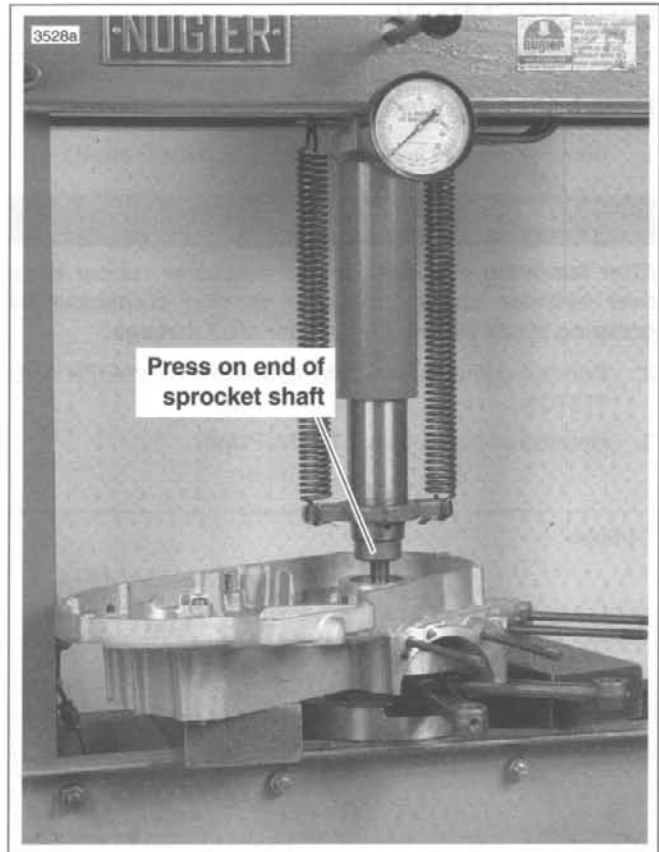

Figure 3-95. Pressing Flywheel from Crankcase
10. See Figure 3-95. Mount the left crankcase half and flywheel assembly on a press table, supporting crankcase on parallel bars. Press on end of sprocket shaft with arbor press until flywheel assembly is free from crankcase half. Do not drive flywheel assembly from crankcase half as flywheels may be knocked out of alignment.